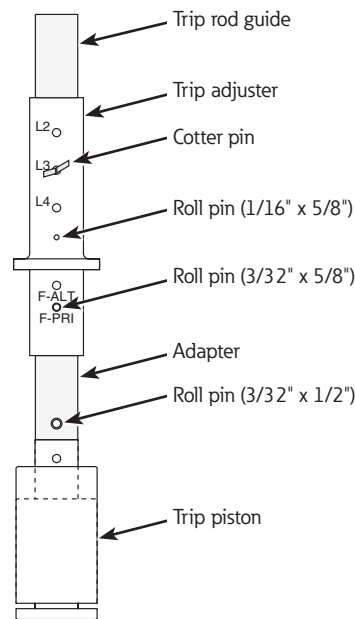

Figure 3. Trip rod assembly
3. Install the adapter on the trip piston assembly (see Figure 3). Secure with a roll pin (3/32" x 1/2").